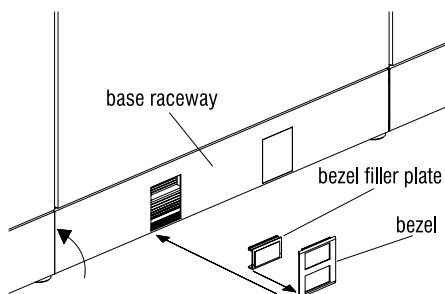

Figure 43
3. Close the raceway door and snap a bezel into the opening from the front of the base (note “this end up” orientation of bezel). If data connection is required, a data faceplate can now be installed (supplied by the customer) into the unused opening in the bezel. Refer to Planning Guide **Data Cable Management** for additional information. If data faceplates are not being used, snap the included bezel filler plate into the unused bottom opening of the bezel. **Figure 43.**
Note: The bezel filler plates always occupy the lower of the two openings on bezels in base raceways. The bezel filler plate can be snapped in place such that it is flush with the bezel face (**Figure 43**) or rotated to allow data cables to exit.